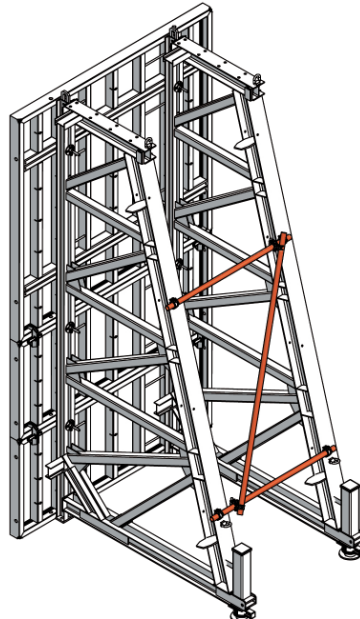
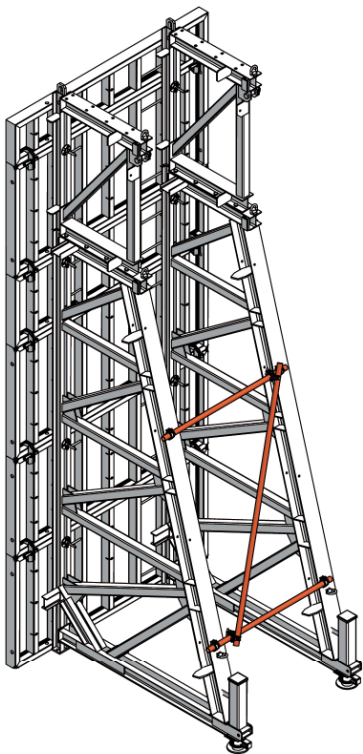
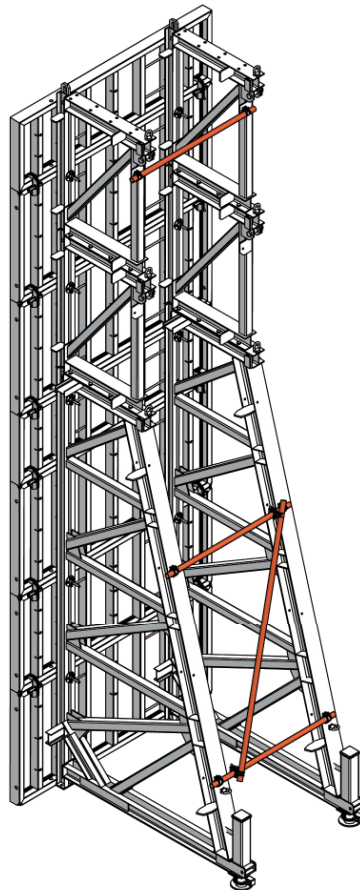

Fig. 7.2
Fig. 7.3
Fig. 7.4
Units built out of STB 450 frames need two (2) horizontal and one (1) diagonal scaffold tube (Fig. 7.2 and Fig. 7.3). If height extensions are used, one additional horizontal scaffold tube per height extension is required from the second height extension on (Fig. 7.4).